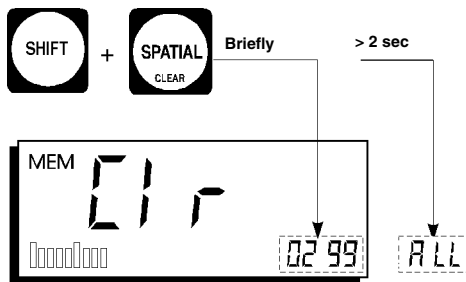

Figure 4-24 Deleting single measured values or all values
- Briefly press the SHIFT + CLEAR (SPATIAL) keys. The most recently stored value is deleted. Its memory location is shown in the small display (Figure 4-24).
- Press the SHIFT + CLEAR (SPATIAL) keys for about 2 seconds. The complete memory contents will be deleted. "ALL" appears in the small display to show that the entire memory content was cleared (Figure 4-24).